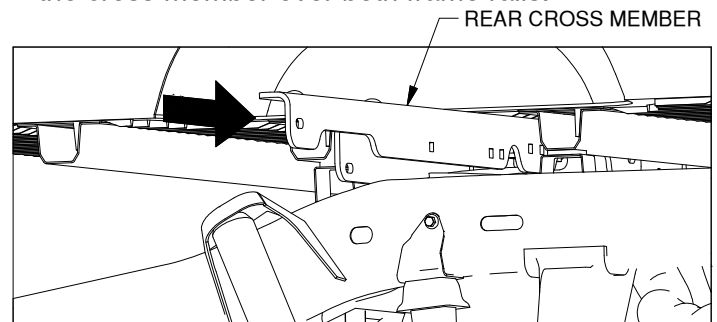

Figure C6: View looking into driver side wheel well.
- 5. Place the rear cross member.** Insert the cross member between the bed and frame and pass it to the other side of the truck, as shown in Figure C6. Center the cross member over both frame rails.